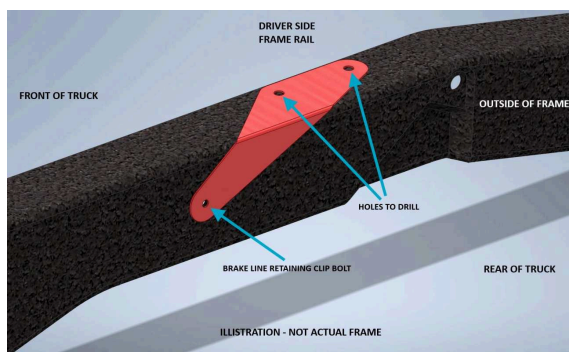

Figure 3: Mark Holes for Drilling
A) Locate 6429DR and 6429PA **(FIG:3)**. These are templates to mark the first set of holes used to bolt the crossmember mounting brackets to the frame. Each template uses the hole for the brake line mounting clip to position it. Lay the template on top of the frame like shown in Figure 3, place a bolt through the hole shown and mark the top two holes. Repeat on the opposite side of the frame.